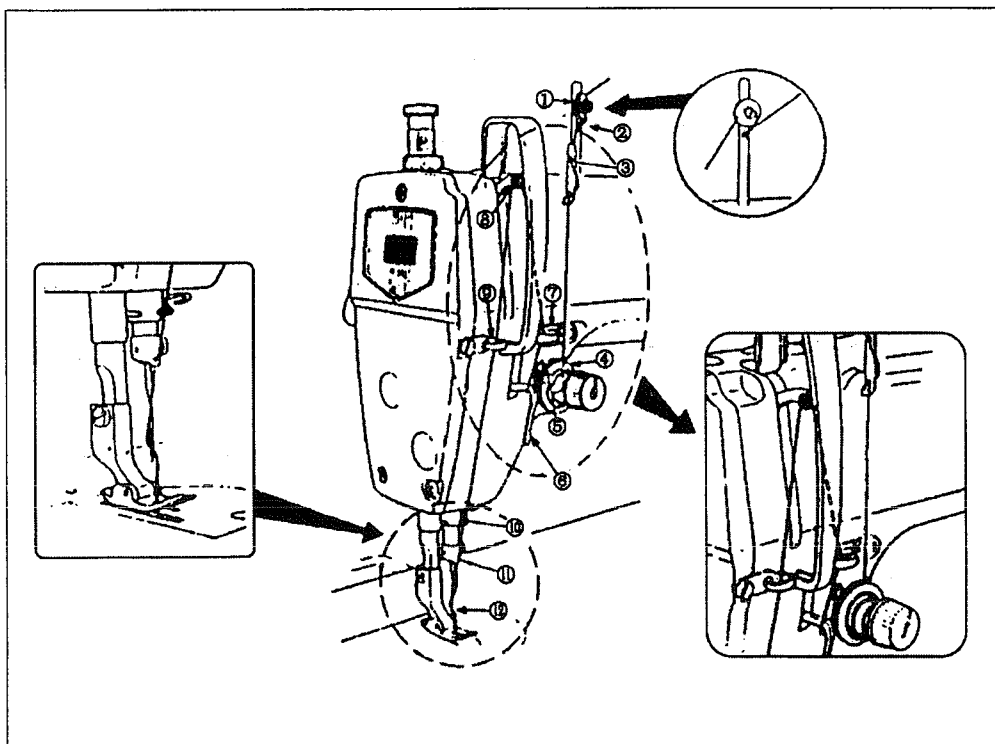

Fig.12
6.THREADING THE MACHINE HEAD (Fig.12)